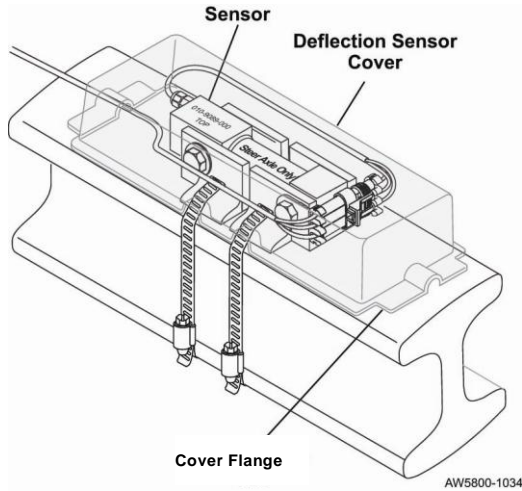

Figure 15. Placing the Cover Over the Deflection Sensor Assembly
1. Mount the cover on top of the sensor and sensor brackets so that the sensor cable is completely under the cover. The bracket band clamps should emerge from the cover's side ports. See Figure 15.